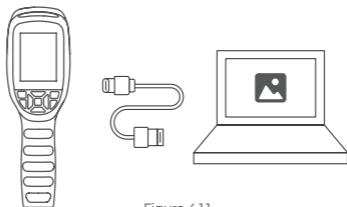

Figure 4.1
2. Connect TC004 SE to your computer with the supplied USB cable (see Figure 4.1).